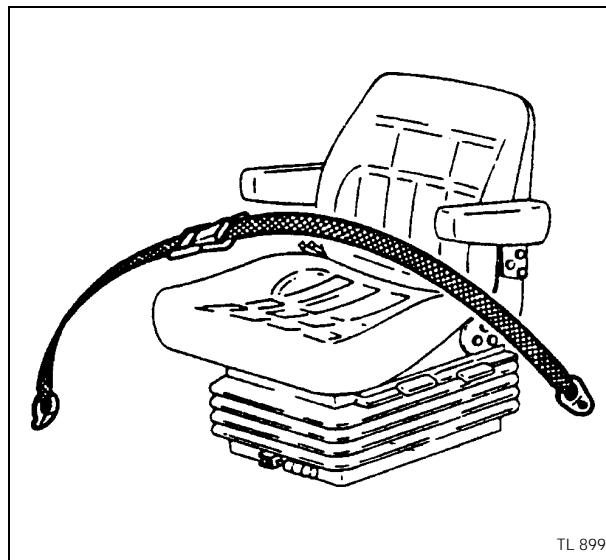

Fig. 6
- Check the seat belt for damage. A damaged seat belt must be replaced (Fig. 6).
- Check ROPS and seat belt for damage. A damaged ROPS or seat belt (see Fig. 6) **MUST** be replaced.